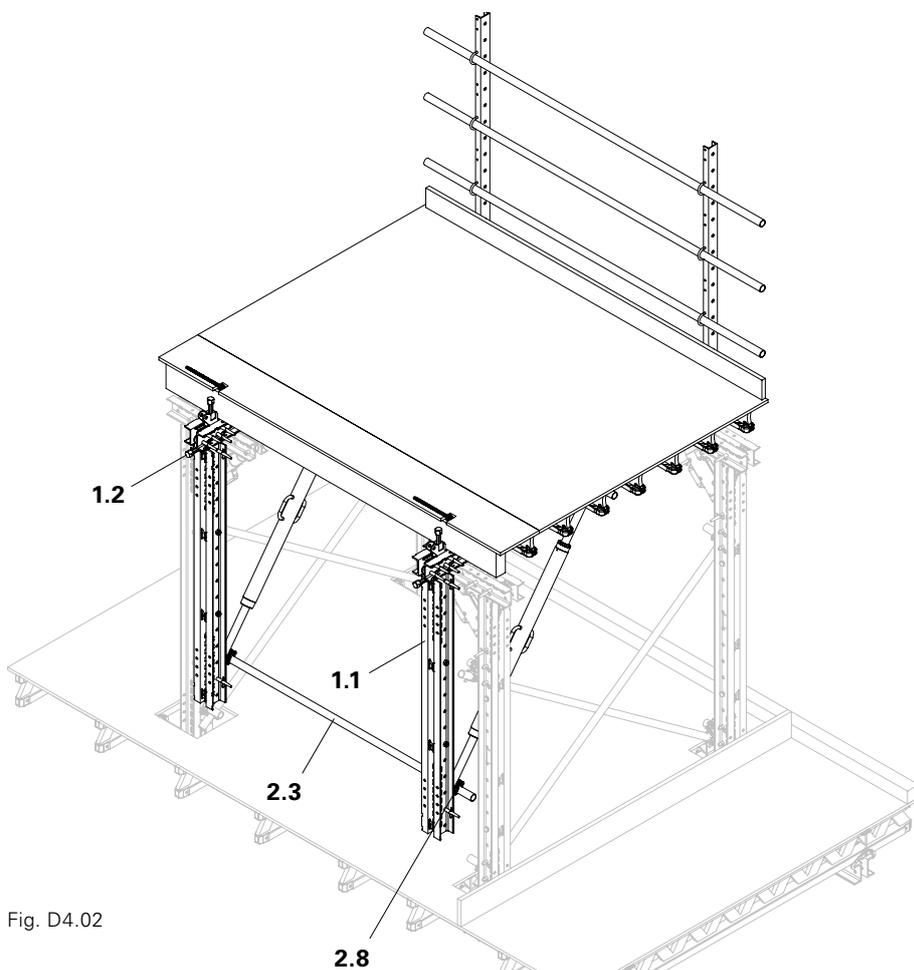

Fig. D4.02
3. Remove the horizontal Steel Scaffold Tubes \varnothing 48.3 x 3.2 (2.3) and Standard Couplers NK 48/48 (2.8). (Fig. D4.02)
5. Remove the vertical Steel Waler SRU U120 (1.1). (Fig. D4.02)
6. Remove the Waler Jack with Connector VARIOKIT (1.2) on the front side. (Fig. D4.02)